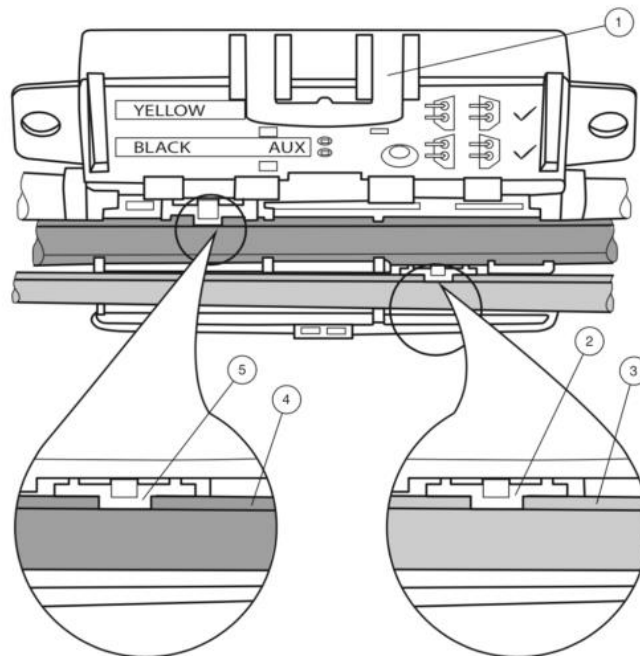

Figure 63: Connecting Flat Cables on the Narrow Side
Open the cable guide. To do this, push the locking bracket (1) slightly to one side. Insert the black AUX flat cable with the profile edge (4) to the motor control module into the lower guide (see the module tag “Black AUX”). See Figure 63.